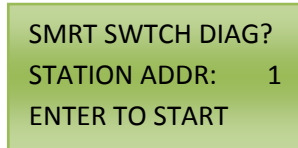

Figure 16.3
- b. See Figure 16.3 for an example.
- a. This action allows the user to see if the Time-Keeper® is communicating with the Control Stations. Press ENTER to start the test. Press ENTER a second time to stop the test. See Figure 16.3 for a visual example.